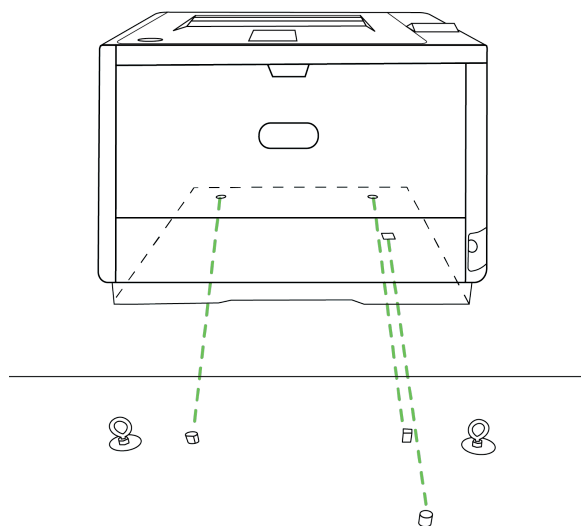

Figure 6-15. The printer aligned on its pegs in its compartment
3. Place the printer into its compartment with the holes on the bottom of the printer aligned on top of the pegs on the floor of its compartment (Figure 6-15).